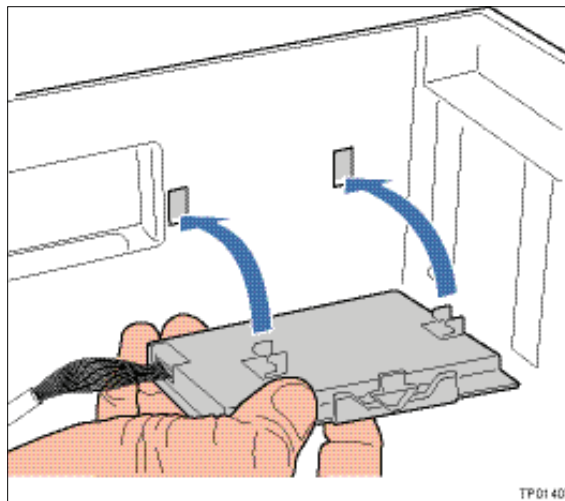

Figure 2. Aligning Clamshell Tabs to the Chassis Clips
2. Align the tabs on the clamshell with the clips on the chassis (see Figure 2).